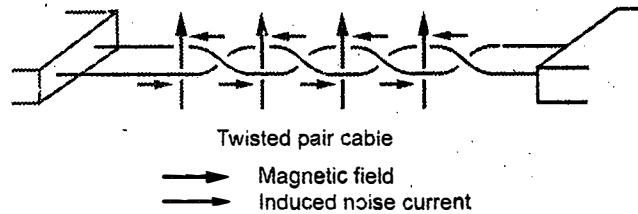

Fig. Q.2.2 Data communication In RS485
- RS485 is currently a widely used communication interface in data acquisition and control applications where multiple nodes communicate with each other. The communication media used is twisted pair of wires to reduce the effects of noise and avoid malfunctioning in selection of node as shown in Fig. Q.2.2.